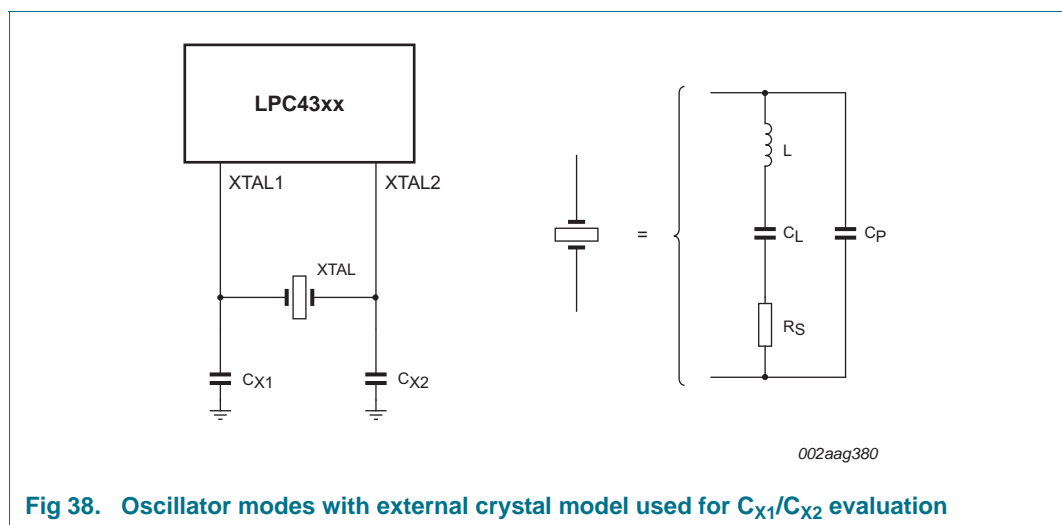

Fig 38. Oscillator modes with external crystal model used for C_{X1}/C_{X2} evaluation
- External components and models used in oscillation mode are shown in Figure 38, and in Table 31 and Table 32. Since the feedback resistance is integrated on chip, only a crystal and the capacitances C_{X1} and C_{X2} need to be connected externally in case of fundamental mode oscillation (the fundamental frequency is represented by L , C_L and R_s). Capacitance C_P in Figure 38 represents the parallel package capacitance and should not be larger than 7 pF. Parameters F_C , C_L , R_s and C_P are supplied by the crystal manufacturer.